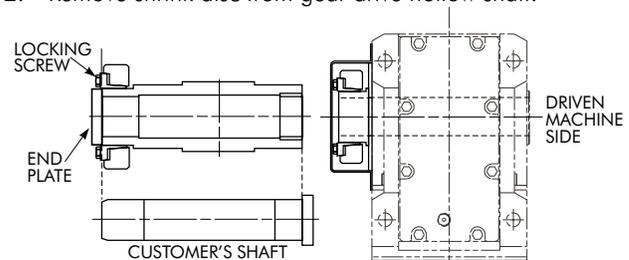

FIGURE 10
4. Draw the gear drive onto the driven shaft (See Figure 10).
6. Fit shrink disc on gear drive hollow shaft to position shown on in Figure 10 on Page 7.
**Note:** When the hollow output shaft is to operate in a vertical position it is essential that the shaft of the driven machine is provided with a shoulder. When the thrust load is not taken by the shoulder on the driven shaft, an end plate, a shown in Figure 10, must be fitted.